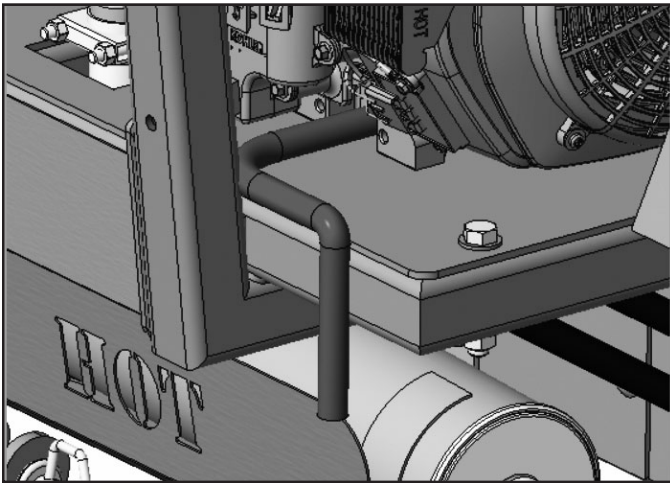

Figure 30: Oil drain hose
- Route rubber oil drain hose over the edge of the frame to point at a drain pan. Using 11/16 wrench and an adjustable wrench remove the hose end cap and drain engine oil into pan. See figure 30